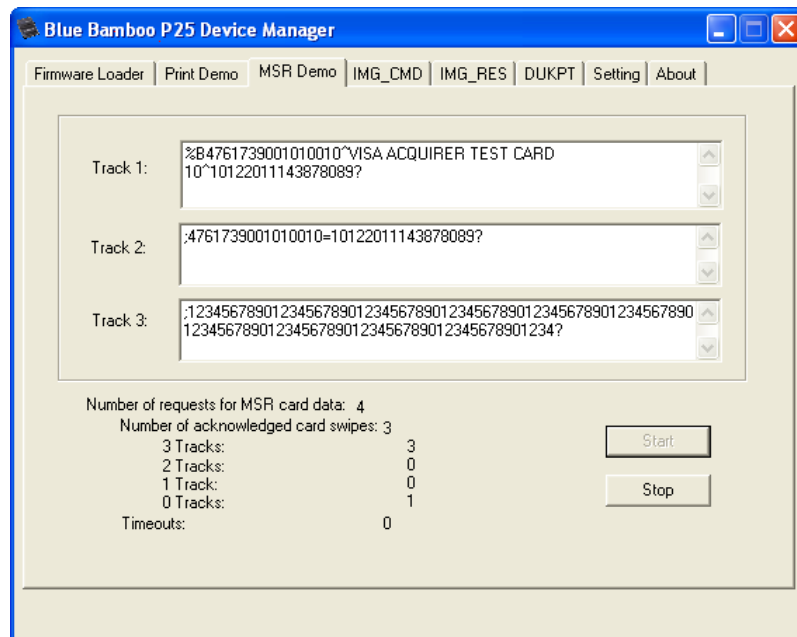

Figure 27
- b. Click **Start** and swipe the card in P25-M MSR reader. The card information will display in the track as shown in Figure 27. The swipes will also be automatically recorded at the bottom of the window. Click **Stop** to exit.